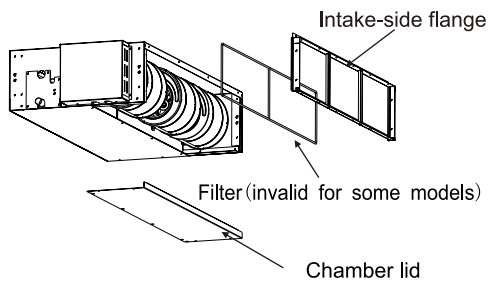
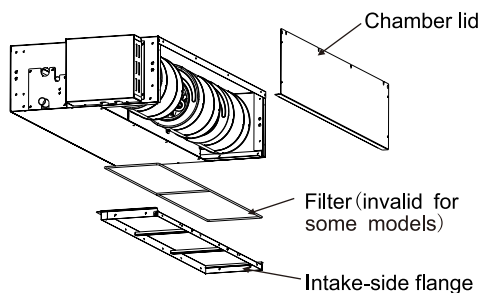

Fig. 3.1.2
Fig. 3.1.3
- (1) Remove the chamber lid.
- (2) Reattach the removed filter in the orientation shown in Fig. 3.1.2, reattach the removed chamber lid in the orientation shown in Fig. 3.1.3, refer to Fig.3.1.3 for the direction of filter.